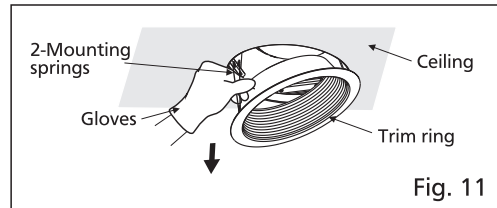

Fig. 11
1. Remove the trim ring by pulling down the mounting springs. (Squeeze mounting spring and pull down carefully.) (Fig. 11)
1. Remove the trim ring by pulling down mounting springs. (Squeeze mounting spring and pull down carefully.) (Fig. 11)